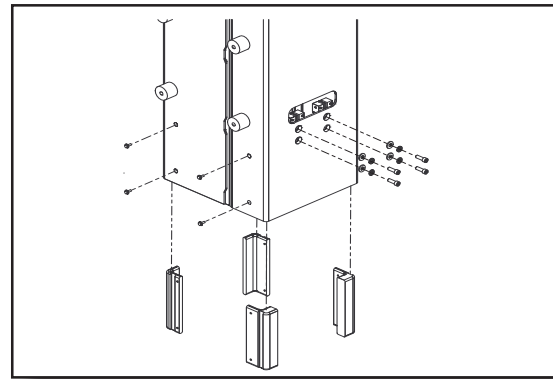

Figure 5-10. Mast 4 Components Removal
- Remove the wear pads (front and back). See Figure 5-10.